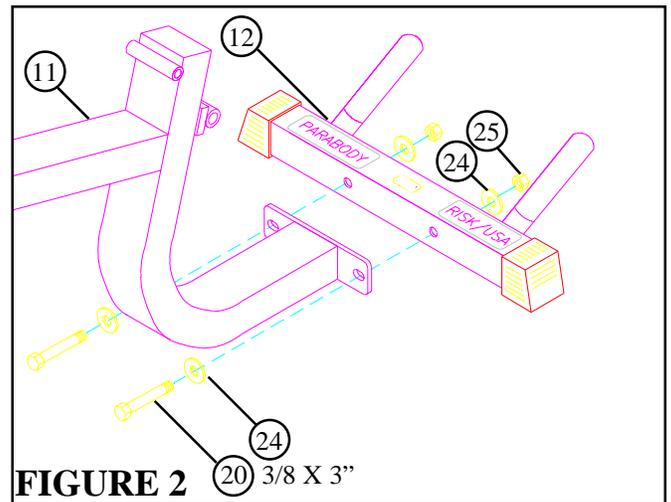

FIGURE 2
STEP 3: Securely assemble REAR BASE LEG (12) to LEG FRAME (11) using two 3/8 X 3" BOLTS (20), four 3/8" FLAT WASHERS (24), and two 3/8" NYLOCK NUTS (25). See FIGURE 2.